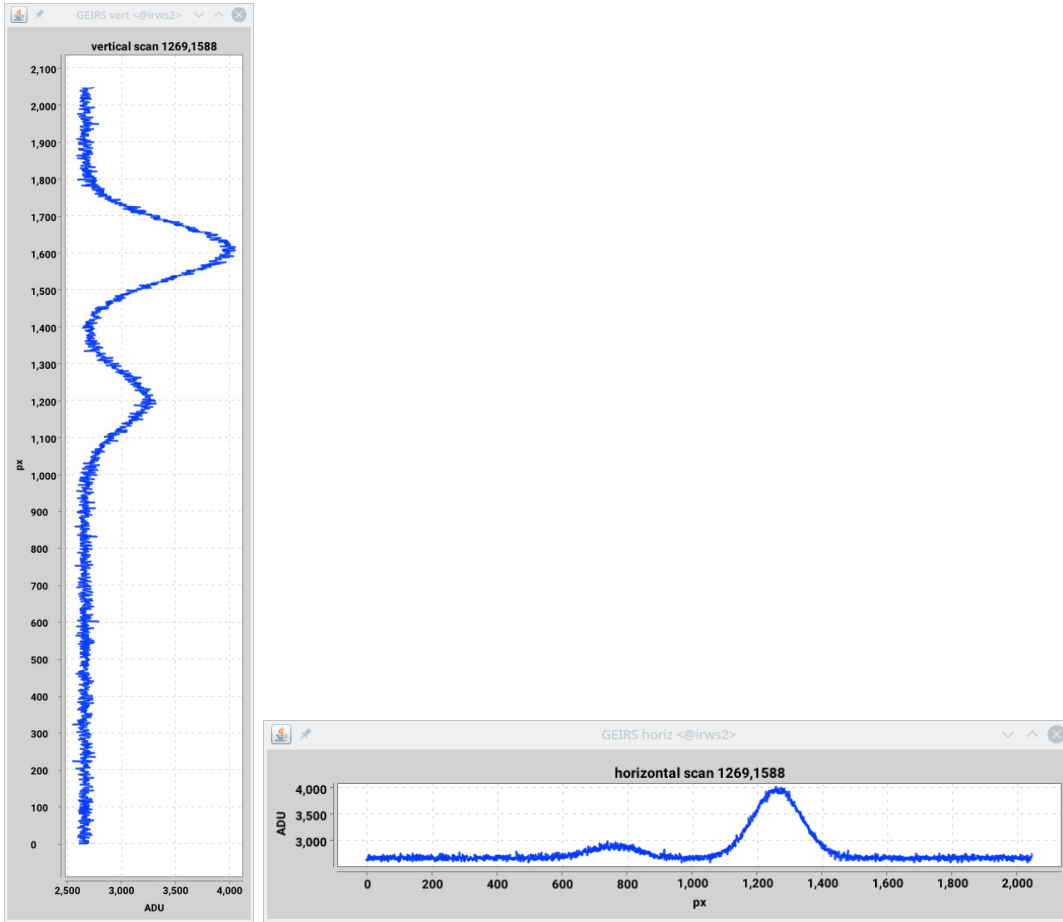

Figure 22: Examples of cut plots activated with the `horiz.` or `vert.` buttons of Fig. 21.
**4.3.4.10 Horizontal/vertical Slice.** In the next row the `horiz.` and `vert.` buttons open plots that show the pixel values along two straight lines that cut horizontally and/or vertically through the image at the “hot pixel” marked by the center of the cross (Figure 22).37 The plots are updated if new images arrive or if the hot pixel is moved. The titles of the plots indicate the FITS x and y coordinates of the common crossing of the two cuts. The buttons are green while the plots are active. The two graphs should be closed by clicking again on the buttons; their color will switch back to gray if de-activated.